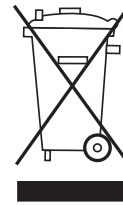

Fig. 1
4. the symbol (crossed-out wheeled bin – Fig.1) even if, shown on the product or on the packaging, indicates that the equipment must be disposed of separately at end-of-life;